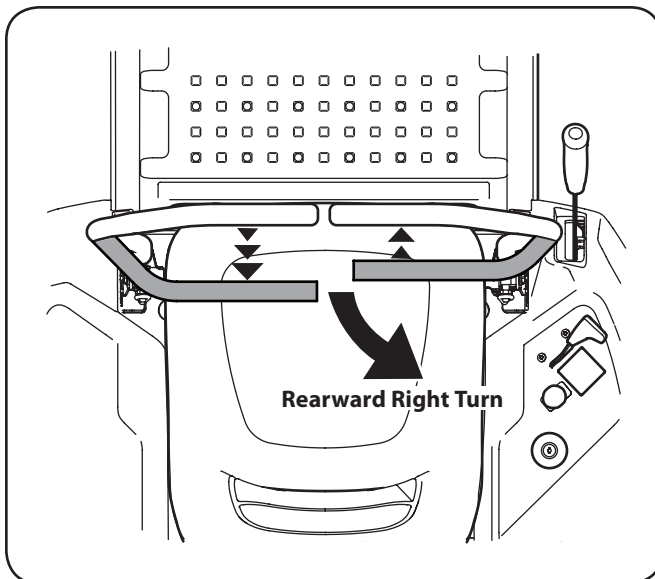

Figure 5-8
2. To turn to the right while traveling in reverse, move the right drive control lever forward of the left lever. See Figure 5-8.